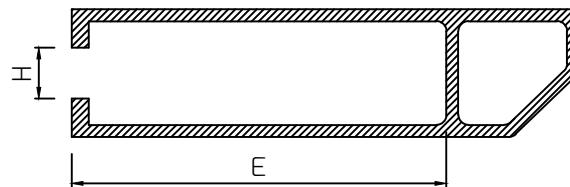

Fig 3-Hollow profile with open end
The tolerance on dimensions shall be as specified in table 1. for profiles with open ends(see Fig 3,4 & the relevant examples)the tolerance specified in table 2 shall be added to those of table 1 for dimensions H across open ended legs in order to obtain the tolerance on the gap between any opposite points on these ends.
*for Profiles with open ends, see Fig 3 & 4, tolerances for H in the area of open ends shall be increased by values specified in TABLE 2.
Fig 3 below shows open end on hollow profiles. The determination on tolerance on cross sectional dimensions H is shown in the following calculation example.